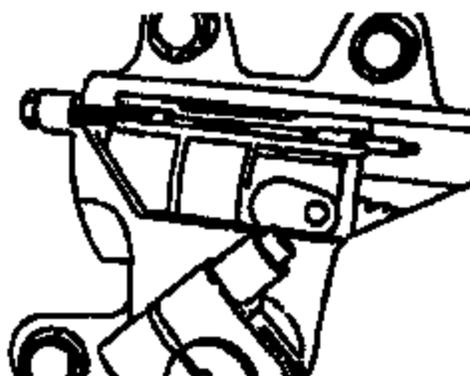

Figure 21
8. Start the engine and run at idle speed. Note which output shaft timing mark is nearest the housing piston bore. Turn the steering wheel in the direction that makes this timing mark move toward the adjusting screw just installed. Turn in this direction until axle stop contact is made. Pull hard on the steering wheel (**30 Lbf (133 N)** pull on a 20" steering wheel) after the axle stop is contacted. This will prepare the upper poppet for setting (**Figure 21**).